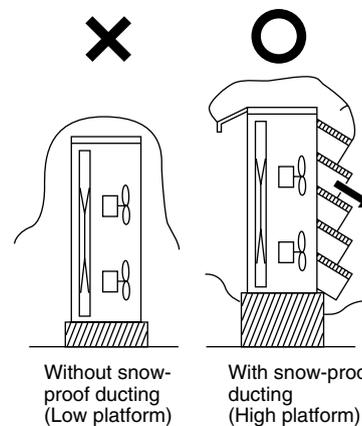

Fig. 2-10
In regions with snow and strong wind, the following problems may occur when the outdoor unit is not provided with a platform and snow-proof ducting (Fig. 2-10):
- (1) The platform should be higher than the max. snow depth. (Fig. 2-10)
- (2) The 2 anchoring feet of the outdoor unit should be used for the platform, and the platform should be installed beneath the air intake side of outdoor unit.
- (3) The platform foundation must be firm and the unit must be secured with anchor bolts.
- (4) In case of installation on a roof subject to strong wind, countermeasures must be taken to prevent the unit from being blown over.